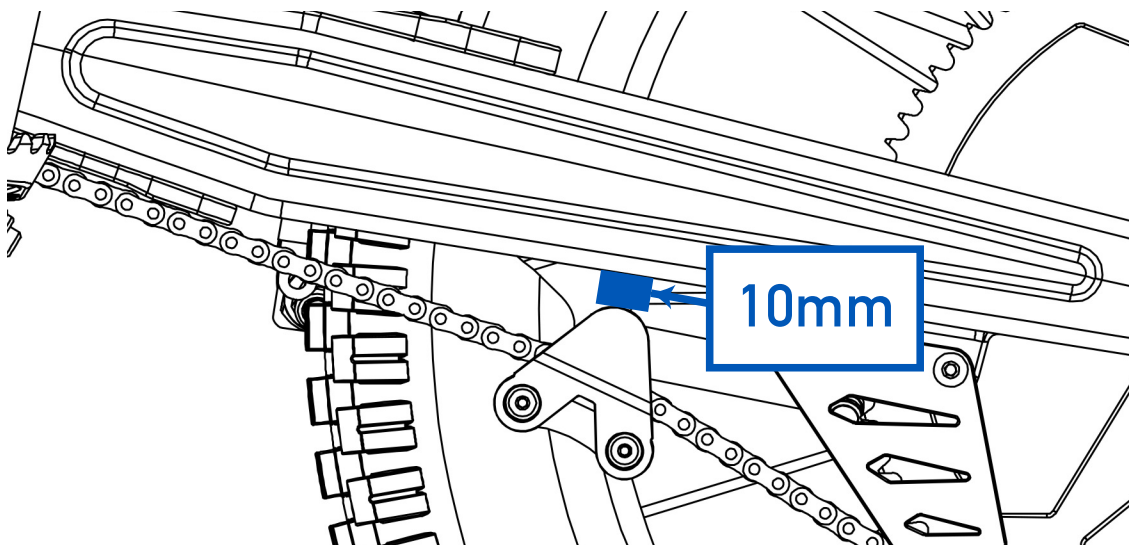

Fig. 14
- Check the chain slack, so that the chain has a slack as indicated in this manual, 10 mm (Figure 14). To check this, turn the wheel and check the slack several times, always measuring from the same point.
4- Once half of the travel has been exceeded, the eccentric must be turned to adopt the position that guarantees an optimal adjustment up to the maximum limit of the travel, as shown in Figure 14.